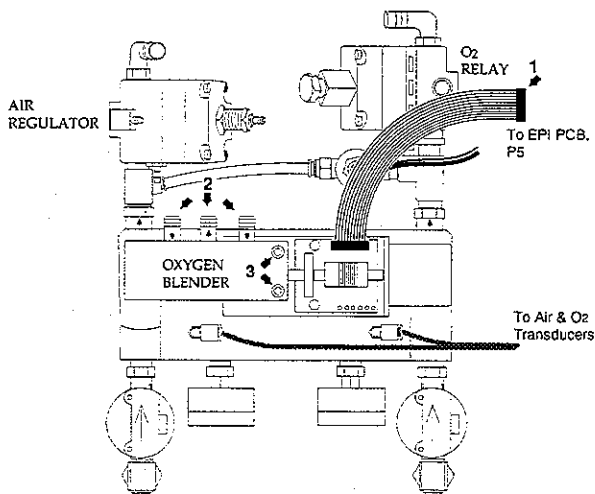

Figure 8-3
- Remove the ribbon cable (Figure 8-3, Ref. 1) at its connection on the EPI PCB.
- Mark or tag the PVC hoses (Figure 8-3, Ref. 2) coming from the Blender and remove.
- Remove the two mounting screws (Figure 8-3, Ref. 3) and remove the Blender from the ventilator.